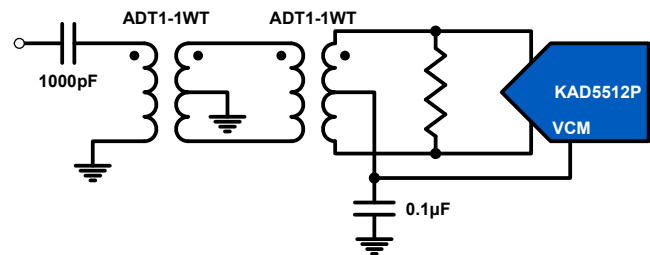

FIGURE 29. TRANSFORMER INPUT FOR GENERAL PURPOSE APPLICATIONS
Best performance is obtained when the analog inputs are driven differentially. The common-mode output voltage, VCM, should be used to properly bias the inputs as shown in Figures 29 through 31. An RF transformer will give the best noise and distortion performance for wideband and/or high Intermediate Frequency (IF) inputs. Two different transformer input schemes are shown in Figures 29 and 30.